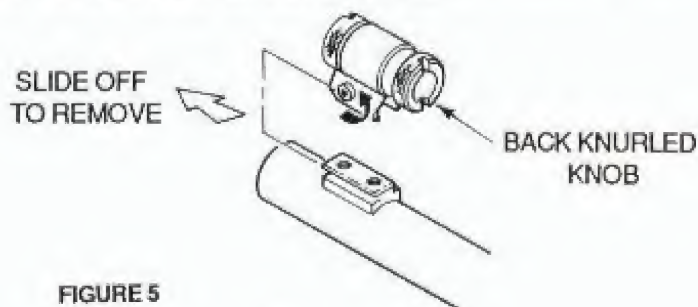

FIGURE 5
Removal of Front Sight: Loosen front sight (A-5003) screw with furnished 2.5mm hex key (A-5006) and slide off front sight base (A-4075). (See Figure 5) Note that the screw head is on the left side of the rifle.
6.2 Front Sight: The Kimber Model 82 Government rifle is equipped with a target front sight with ten interchangeable inserts. Seven of these are aperture type and three are post types. To install interchangeable insert, loosen back knurled knob on sight (See Figure 5) until slot in sight is clear. Place interchangeable insert in sight and tighten knob. (See Figure 11)